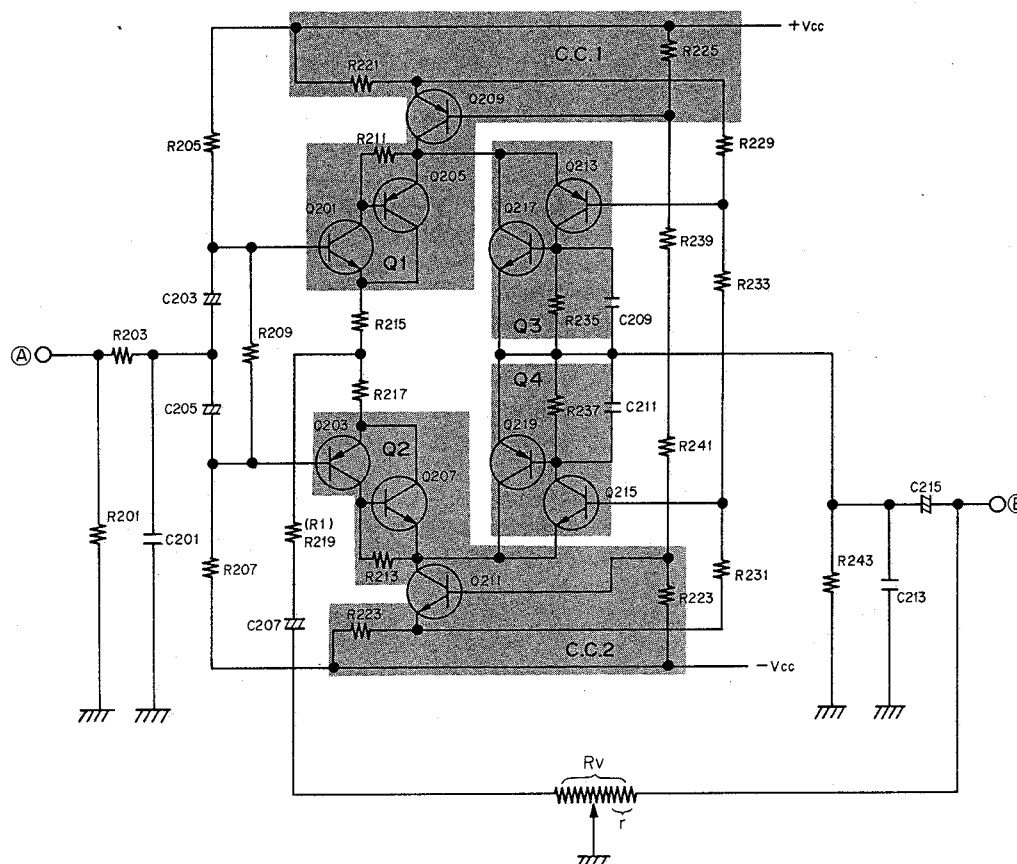

Fig. 9
As shown in Fig. 9, the Gm volume control circuit has a circuit configuration in which the I/O terminals (A) and (B) for the bridged transistors (Q1 - 4) and constant current circuits (C.C.1 - 2) are placed opposite each other.